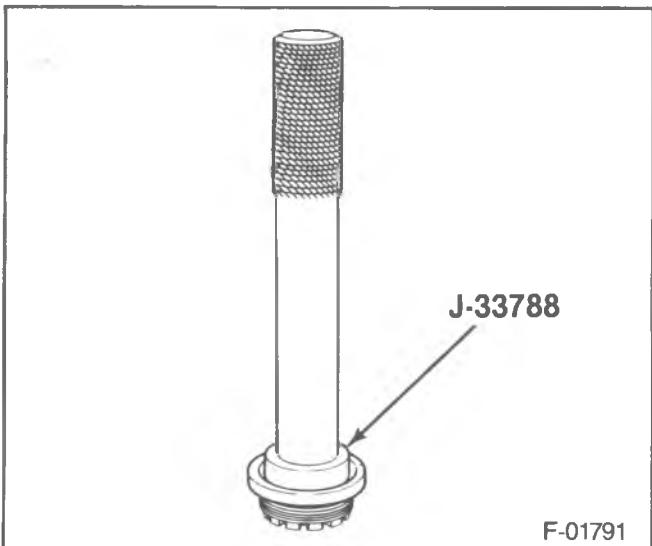
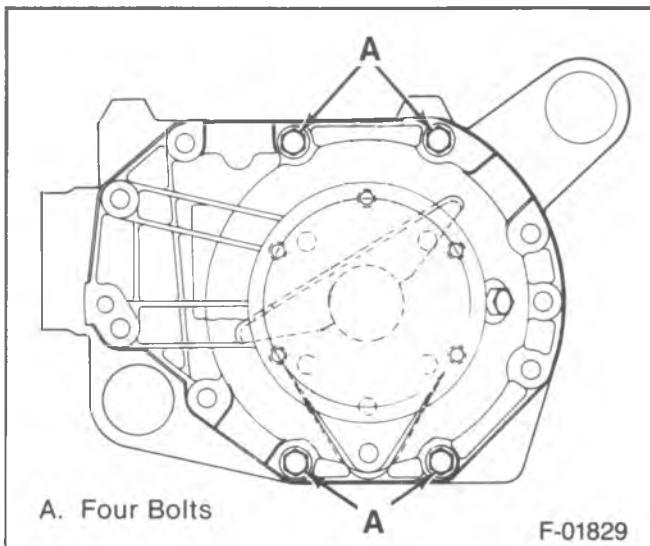

Figure 82—Installing the Bearing
Figure 83—Installing the Four Bolts
- 16. Bearings (30) into the sleeve (32) using J-33788 (figure 82).
- Thread the sleeve (32) into the case.
- 17. Side bearing cups (33) into the carrier case (29) using J-23423-A.
- Place the differential case assembly (35) into the carrier case half which contains the pinion gear.
- Turn the left hand adjusting sleeve (32) in toward the differential case using J-33792 until backlash is felt between the ring and pinion gear.
- 18. Carrier case halves (29). Do not use any sealer at this time.
- If the carrier halves do not make complete contact, back out the right hand adjusting sleeve (32).
- 19. Four bolts (28) (figure 83).